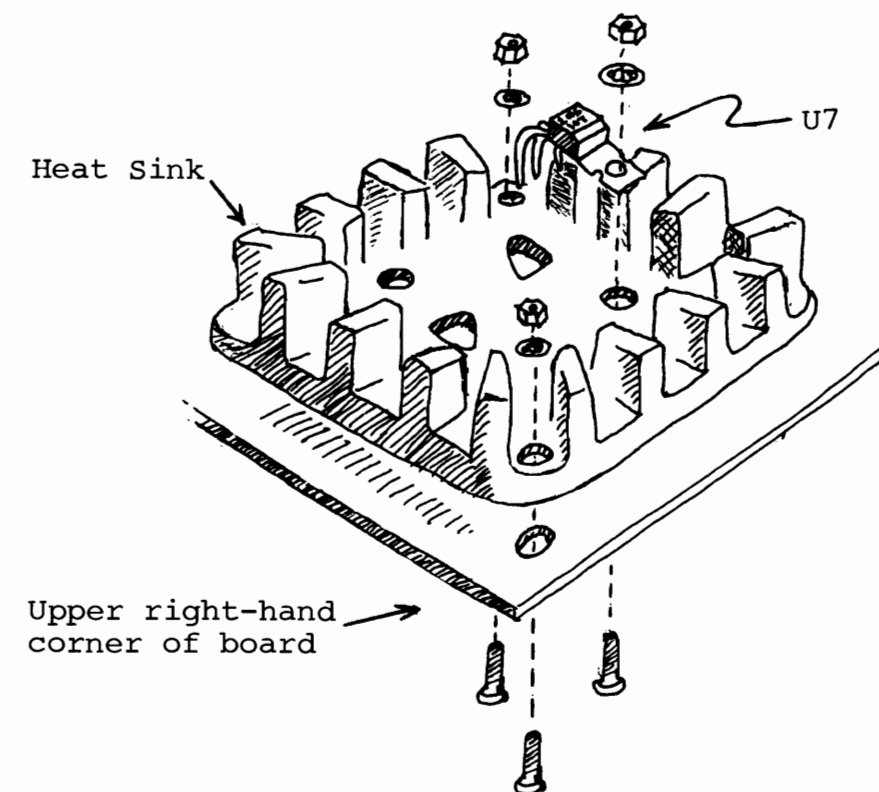

Figure 2-2. Heat sink and U7 installation.
- (↓) Step 1. Install heat sink. Position the large, black heat sink (flat side to board) over the square foil area in the upper right corner. Orient the sink so that the two triangles of mounting holes in the board are under the two triangular cutouts in the sink. Using two 6-32 screws, lockwashers and nuts, attach heat sink to board. Insert the screws from back (solder) side of board. (See Figure 2-2.)
- (↓) Step 2. Install U7 (7805UC or LM340T-5.0). Position U7 over left-hand cutout in heat sink and observe how the leads must be bent to fit the mounting holes. Note that the center lead (3) must be bent downwards at a point approximately 0.2 inches further from the body than the other two leads. Bend the leads so that no contact is made with the heat sink when U7 is flat against the sink and its mounting hole is aligned with the hole in the sink. Fasten U7 to sink using a 6-32 screw, lockwasher and nut. Insert screw from back (solder) side of board. Solder and trim leads. (Refer to Figure 2-2.)